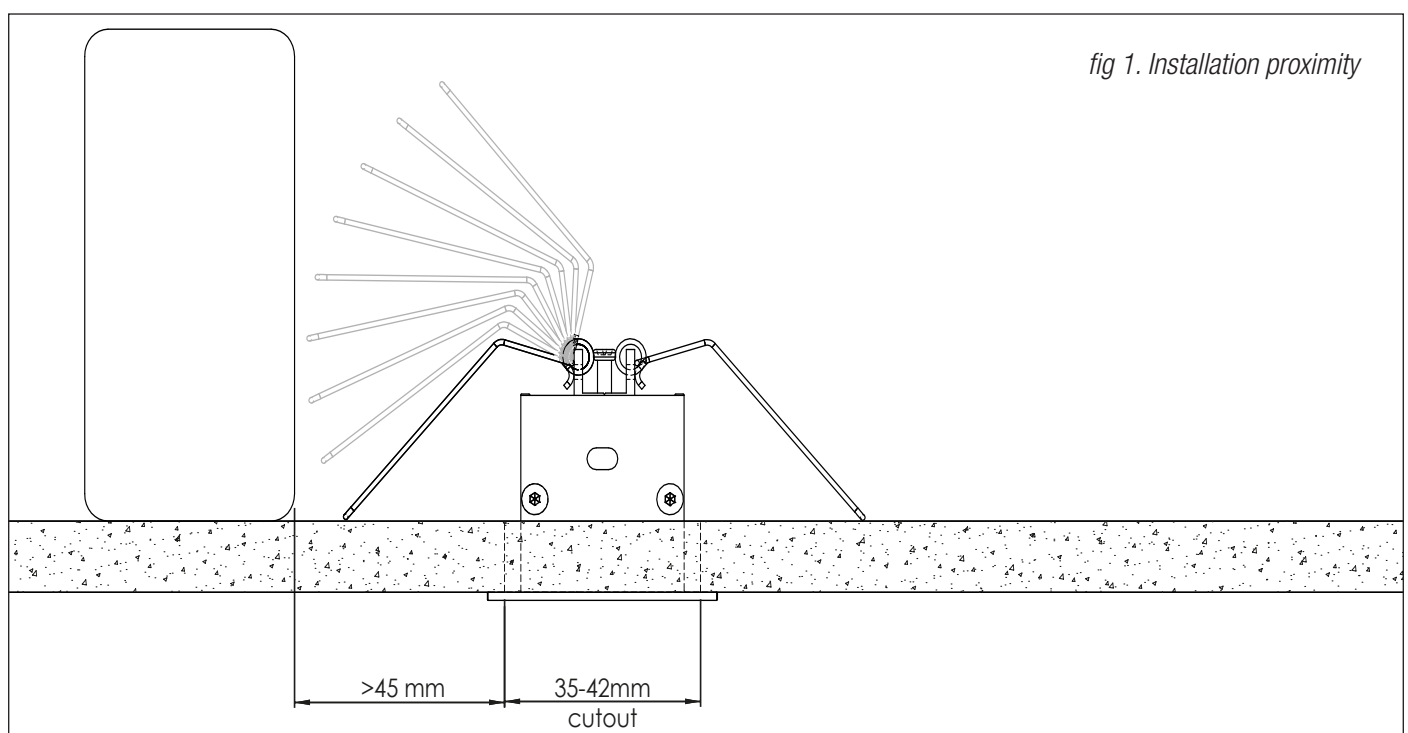

fig 1. Installation proximity
*Note: If the cutout edge is closer than 45mm from any structure behind the panel, the spring mounting clips will not be able to settle into position correctly. The install could be compromised. See *fig 1*.